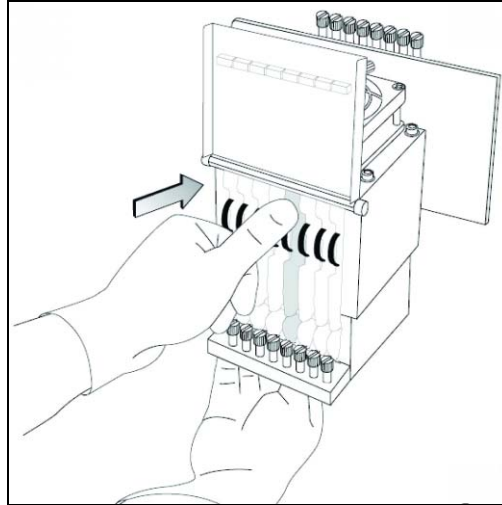

Figure 7-45: Inserting the print-head driver card into its socket
- Re-insert the print-head driver card into its socket (see figure 7-45 on page 32).